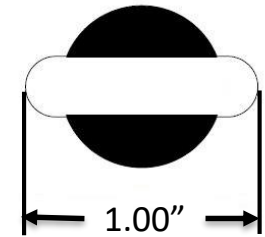

Figure 3
- Lower Carbon Canister** - Lower the carbon canister from driver side frame by removing the rearmost (1) M8 bolt using a 10mm socket and allowing the canister to hang. NOTE: If present remove frame rail plug, to access rear mounting point on the driver side.
- Enlarge attachment holes** - Using die grinder, enlarge the forward most attachment hole of driver and passenger side frame rails to insert carriage block and bolt. see Figure 3.
1. Lower Muffler - Using exhaust removal pliers, remove the (2) rearmost rubber exhaust hangers. Spraying a lubricant will help the removal process. Note: Be sure the exhaust is supported before removing from rubber hangers to prevent damage.
2. Remove Heat Shield - Remove (4) metal fasteners that hold the heat shield in place with 15/16" socket. Take the heat shield off and trim the area marked in Figure 3.
3. Lower Carbon Canister - Lower the carbon canister from driver side frame by removing the rearmost (1) M8 bolt using a 10mm socket and allowing the cannister to hang. NOTE: If present remove frame rail plug, to access rear mounting point on the driver side.
4. Enlarge attachment holes - Using die grinder, enlarge the forward most attachment hole of driver and passenger side frame rails to insert carriage block and bolt. see Figure 3.